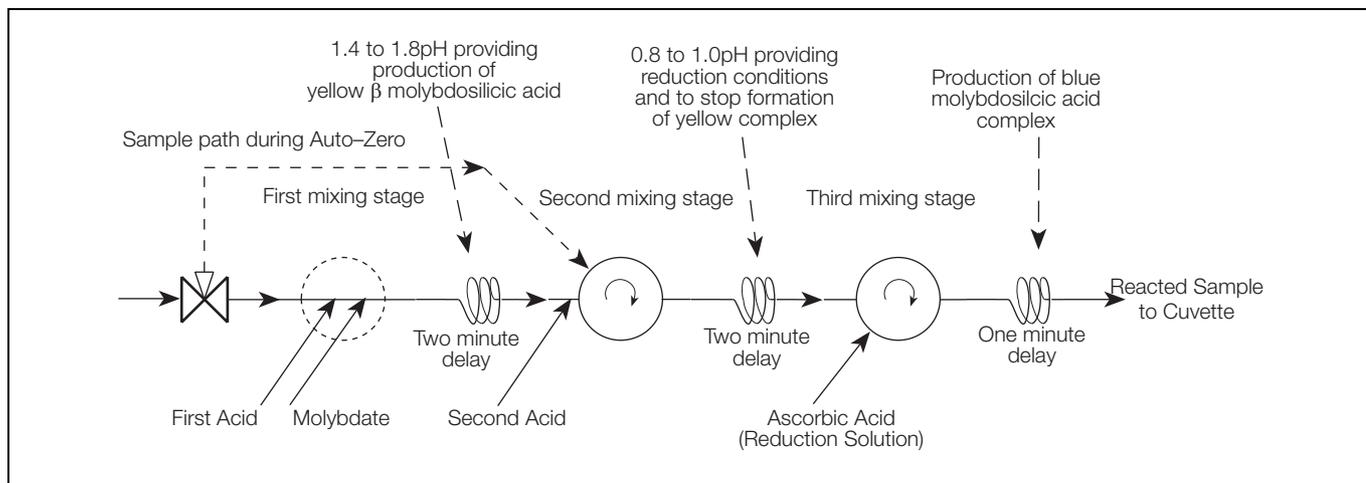

Fig. 4.1 Chemical Schematic
4.1 Principle of Operation – Fig. 4.1